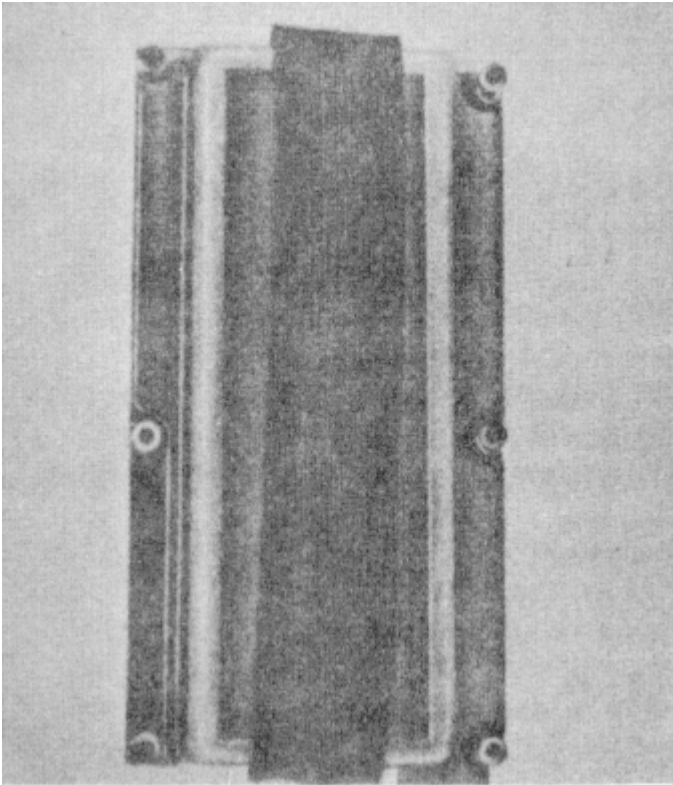
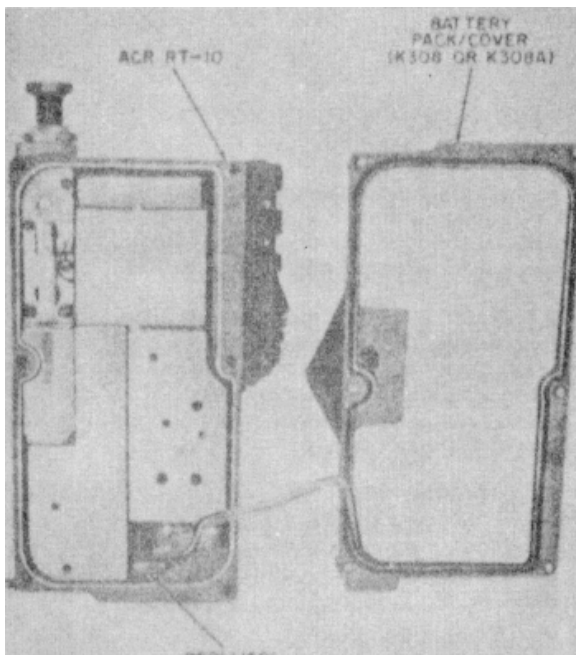
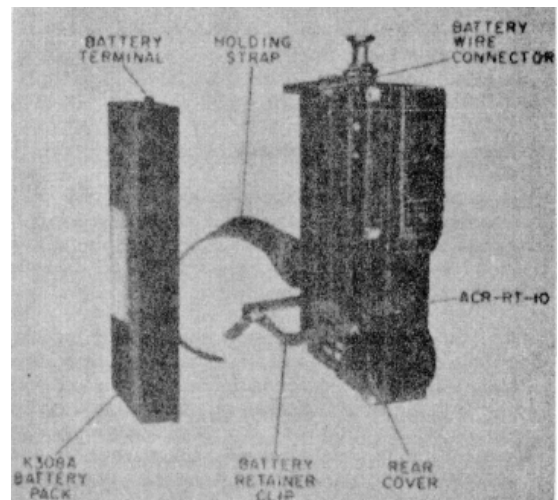

Figure 1-5. Rear View of K308 Battery Pack
Figure 1-6. Battery Pack and Cover Removed to Show Connection to Radio Set
Figure 1-7. K308A Battery Pack Separated From Rear Cover
**1-13.** One difference between the RT-278A/URC-10 and ACR RT-10 (fig. 1-2 and 1-3, respectively) is the addition of an antenna coil (76, fig. 6-7) in the ACR RT-10 model to match impedance of the antenna to the output of the transmitter. The other difference between these models is the method by which -16 vdc is supplied to the radio set. The RT-278A/URC-10 requires an external cable and connection to the 16 vdc battery; radio set ACR RT-10 has an integral battery pack which is part of the rear cover. Two types of battery packs are used in this manner, K308 and K308A. the K308 battery pack, figure 1-5, is part of the rear cover assembly and both the rear cover and battery pack must be replaced if the battery is defective. Power connection to the radio set is provided by a plug/ socket arrangement, P501/J501, as shown in figure 1-6.
1-14. The K308A battery pack, which resembles the K308 battery pack shown in figure 1-5, consists of two sections, a rear cover, and a detachable battery. To remove the battery, for test or replacement, a retainer clip at the bottom of the rear cover is swung upward, allowing the battery to slide out from the cover. The K308A battery is shown removed from the rear cover in figure 1-7. A flexible silicon-rubber material at the top of the battery is penetrated by two wire prods (part of the rear cover) to make connection with the battery terminals where the K308A battery is assembled to the cover.